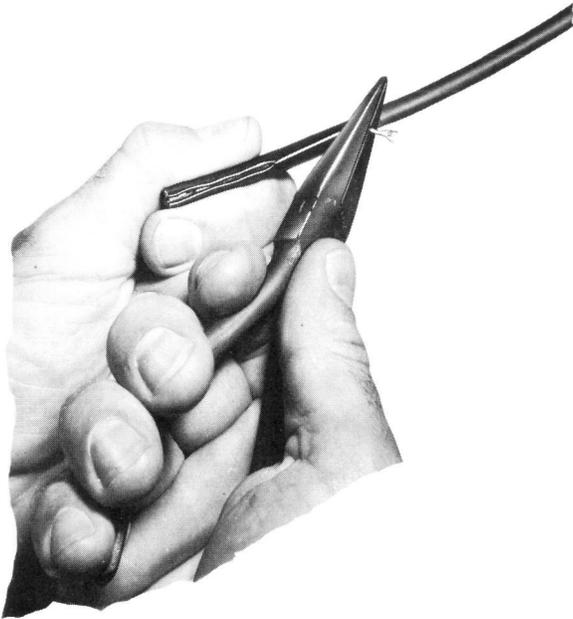

Fig. 1 — Slitting Outer Jacket, Using Slitting Cord
(1) Using diagonal pliers, make approximately a 1/2-inch slit in the end of the outer jacket along the ridge of the jacket, to expose the outer jacket slitting cord.
(2) Grasp the slitting cord firmly between the flat jaw portions of the long nose pliers. Pull the cord with the long nose pliers and slit the outer jacket back approximately 5 inches from the end of wire, as shown in Fig. 1. Remove the slit portion of the jacket, using the diagonal pliers.